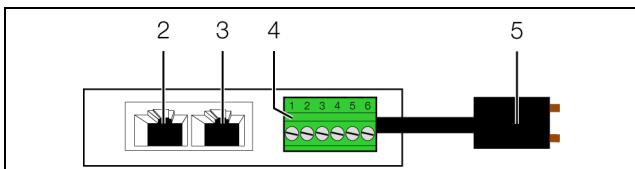

Fig. 2: Rear of the leak sensor
- Connect the sensor probe connector to the universal interface (fig. 2, item 4).
- Use a CAN bus connection cable to connect the leak sensor to a CAN bus interface on the CMC III Processing Unit or the neighbouring component on the CAN bus (fig. 2, item 2).
- If necessary, connect another component (e.g. another sensor type) to the second, free CAN bus interface of the leak sensor (fig. 2, item 3).